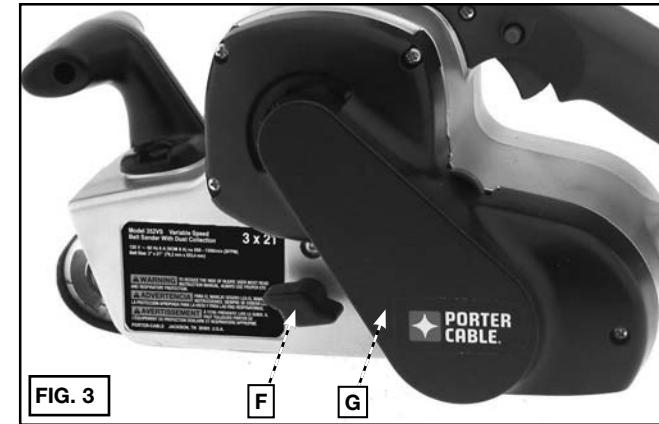

FIG. 3
CAUTION: To reduce the risk of injury, check to see that the belt guard (G) Fig. 3 is in place, secured, and working correctly.
- Turn the tool over. Hold the rear handle with the left hand so that the ring finger and the little finger rest on trigger (C, Fig. 3).
- Turn the belt aligning knob (F) in either direction until the edge of the belt is even with the outer edge of the rear rubber-covered pulley. The edge of the belt will extend beyond the edge of the front pulley.